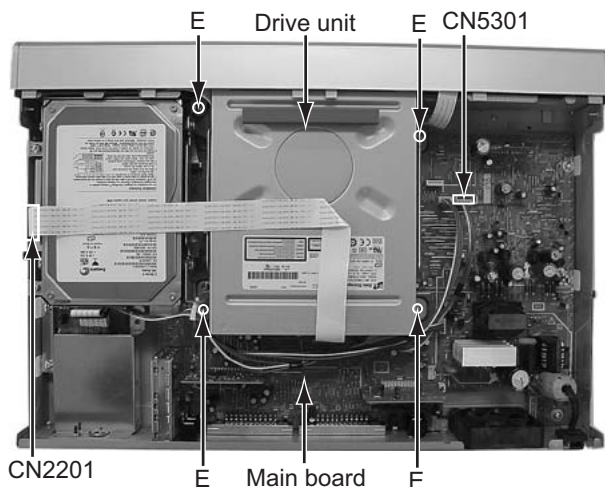

Fig.5
3.1.3 Remove the drive unit (See figure 5)